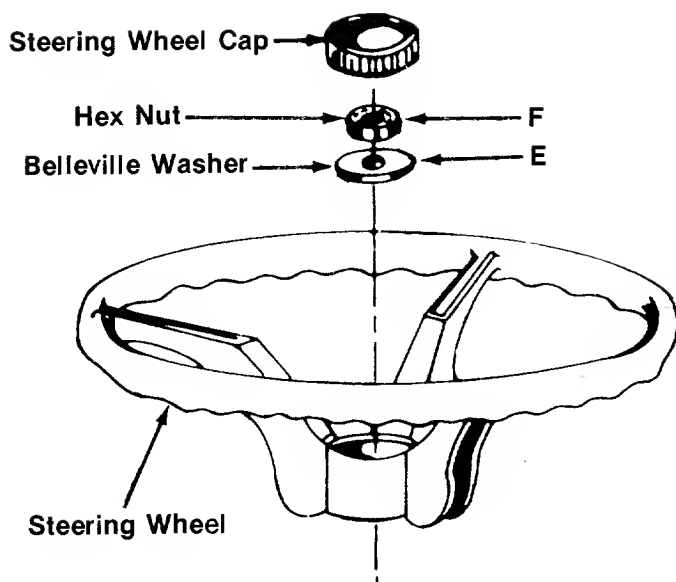

FIGURE 2. STEERING WHEEL ASSEMBLY
- Step 3. Secure with Belleville Washer (E) and Hex Nut (F). See figure 2.
- Step 4. Press the cap on the steering wheel by hand. See figure 2.